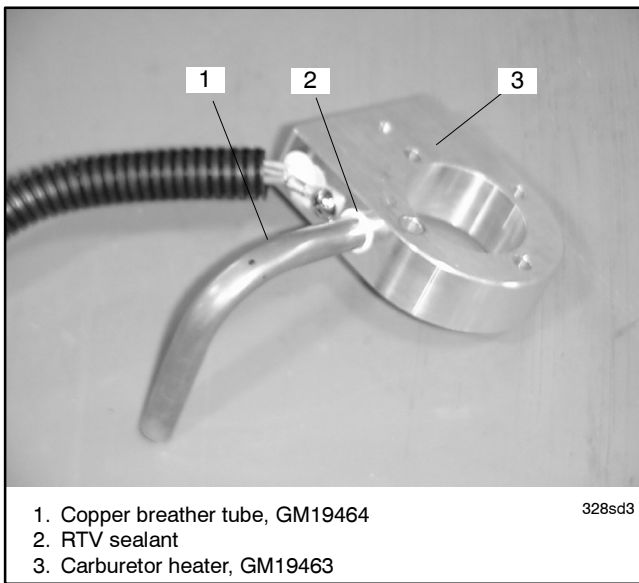

Figure 4 Heater with Copper Breather Tube
- 4.1 Apply RTV sealant to the end of the copper breather tube, GM19464 (included in the kit), and insert it into the drilled hole in the heater, GM19463. See Figure 4. Press the breather tube approximately 0.4 inches into the heater plate so that the end of the breather tube is flush with the inside diameter but does not extend into the large opening of the heater.